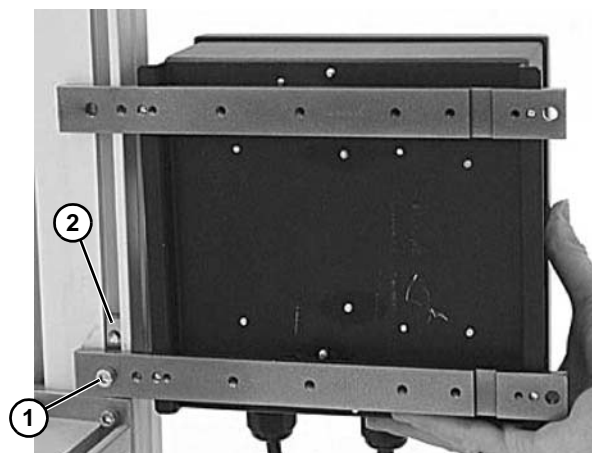

Figure 22
3. Temporarily tighten screw (**Figure 22, item 1**). Install second T-bar (**Figure 22, item 2**) into T-slot.